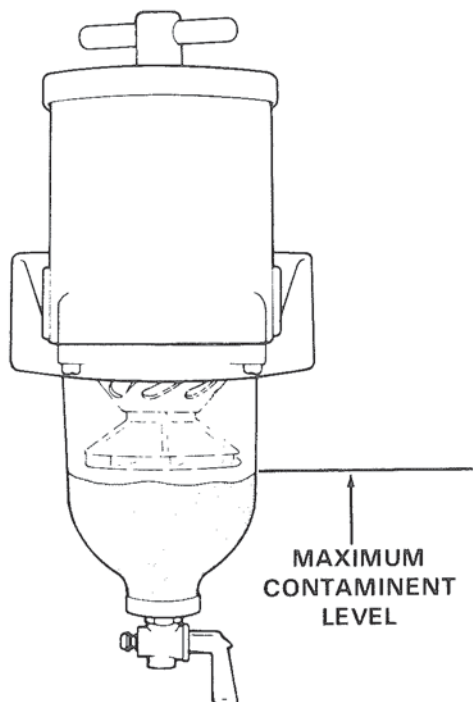

Figure 6. Maximum Water Contaminant Level.
Water should be drawn off daily. DO NOT allow water or contaminants to reach bottom of centrifuge. If more than two (2) cups a day is present, fuel quality or storage conditions are not adequate. Figure 6.